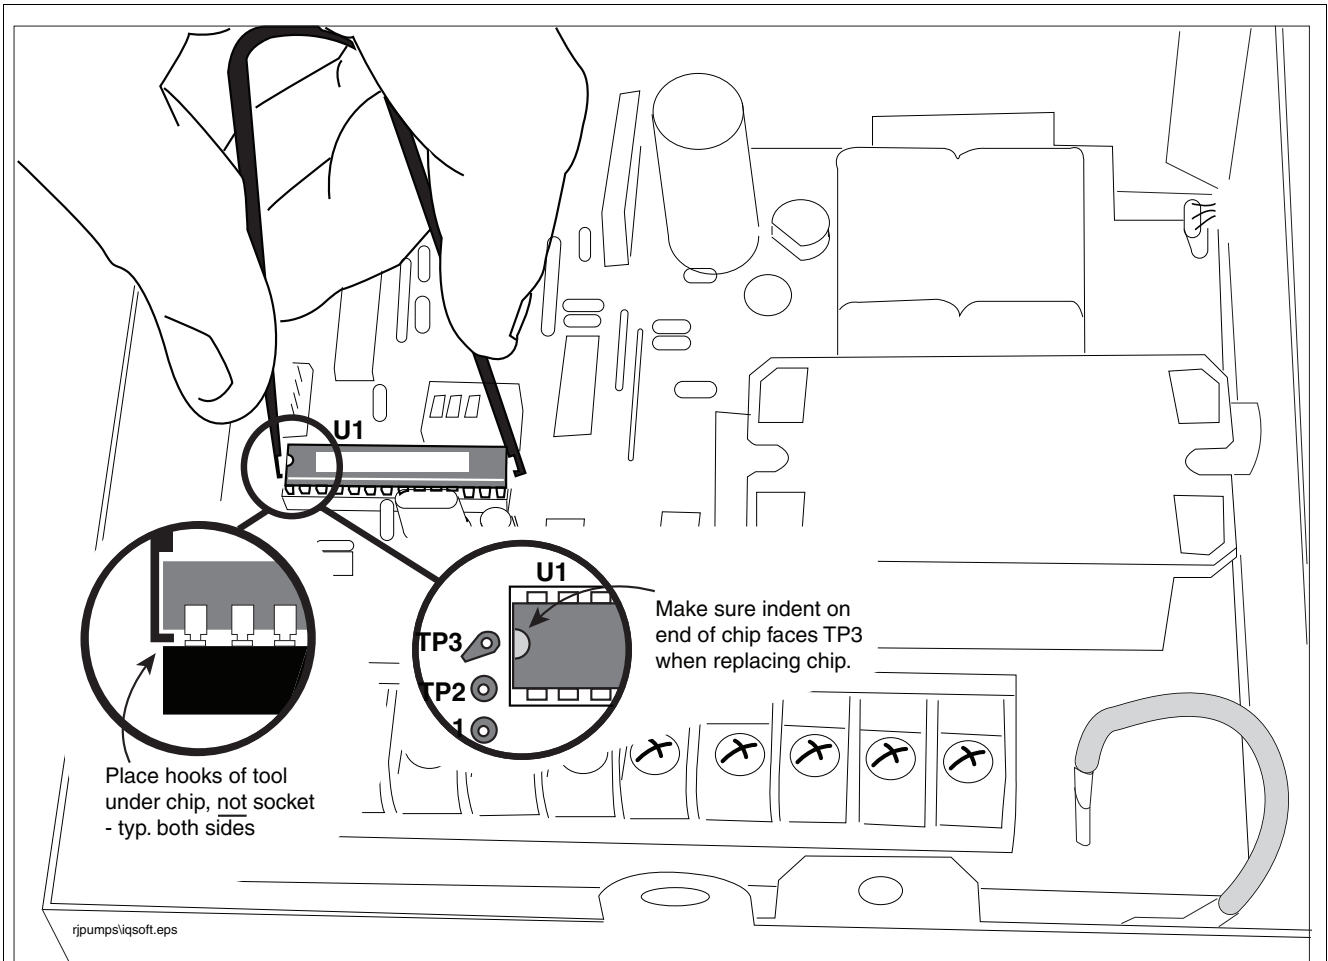

Figure 2. Removing U1 - Software PROM
3. Locate the Software PROM U1 (see Figure 2).
4. Position the small hooks in the ends of the chip removal tool under the ends of U1 as shown in Figure 2. Rock the tool side to side as you pull on the chip to lift it out of socket.
5. Orient the new upgrade chip with the end having a semicircle indent pointing toward TP3 as shown in Figure 2. Carefully align the chip pins over the holes in socket and gently push the chip into the socket. Firmly seat the chip in the socket. Remove and discard the antistatic wrist strap.